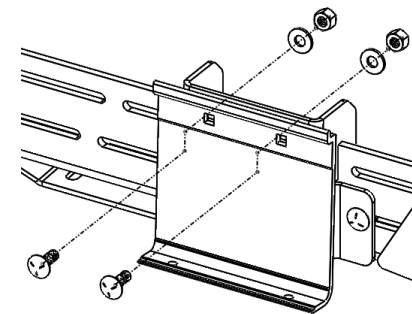

Figure 5: Installation of Manufacturer's Awning Bracket
4. Attach manufacturer's awning bracket to the Aluminess awning bracket (PN 351182) using the provided 1/4"-20 x 3/4" carriage bolts, washer, and nylon-locking nuts provided (Figure 5).
NOTE: Due to the tight spacing between the awning and the manufacturer's awning bracket, the hardware must be installed in the direction shown in Figure 5. The washer and nut should be placed on the backside of the Aluminess brackets.